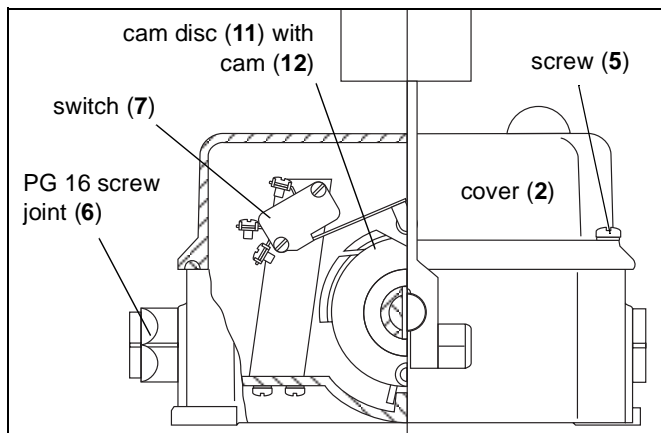

Fig. 5-11: Adjusting the switching points – breaking out the cam
4. Adjust the switching point "switch off" (see Figs. 5-11 and 5-12): adjustment range: 15° to 35°
- a. Break the cam (12) out of the cam disc (11) to get a larger adjustment range.
- b. Loosen the screws (15) in the cam disc (11).
- c. Adjust the switching point "switch off" by turning the cam disc (11).
- d. Retighten the screws (15).
5. Close the cover (2) of the belt misalignment switch and retighten both screws (5) (see Fig. 5-11).
2. Open the cover (2) by loosening both screws (5) (see Fig. 5-11).